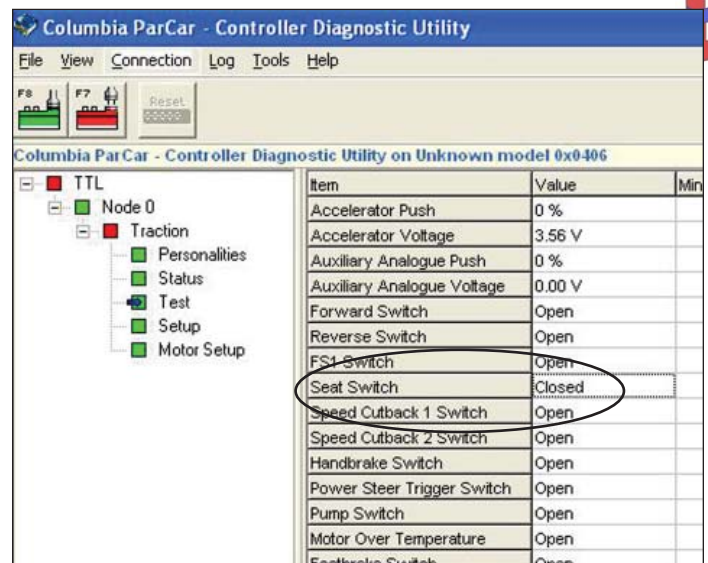

Figure 4-6. Seat Switch Test
5. Check the “Seat Switch” item and value (Figure 4-6). For vehicles equipped with a seat switch, the value should read “open” when the operator seat is not occupied, and “closed” when the operator seat is occupied. If the switch fails to close, check the wiring from the B- post of the controller to the seat switch, test the seat switch with a VOM, and check the wiring back to the controller (pin 5). For vehicles without a seat switch, the value should read “Closed”. If the switch does not register as closed, check the black 5 wiring from the B- post of the controller to controller plug (pin 5).